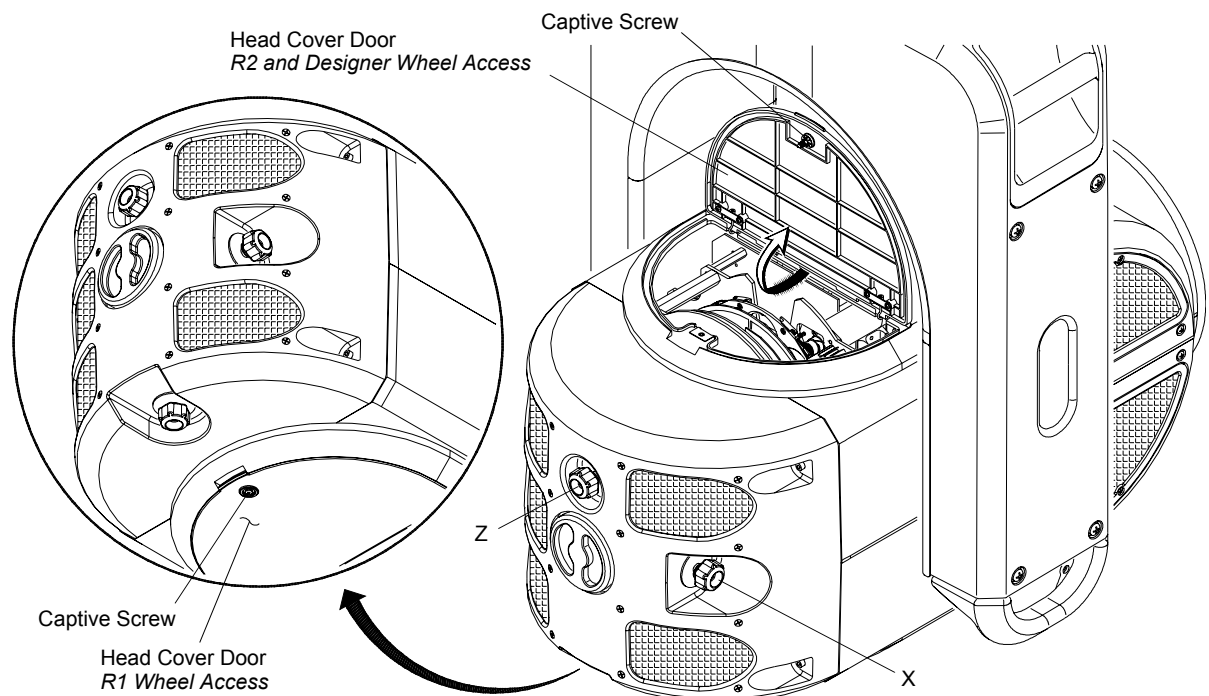

Figure 4-10: Accessing Gobo and Designer Color Wheels
Step 2. Locate appropriate head cover door for access to Rotating Gobo Wheel 1 (R1) or Rotating Gobo Wheel 2 (R2) as shown in Figure 4-10. (Doors are identified by a label.) Turn captive screw to open door.
- Step 2. Locate appropriate head cover door for access to Designer Color Wheel as shown in Figure 4-10 on page 73. (Doors are identified by a label.) Turn captive screw to open door.